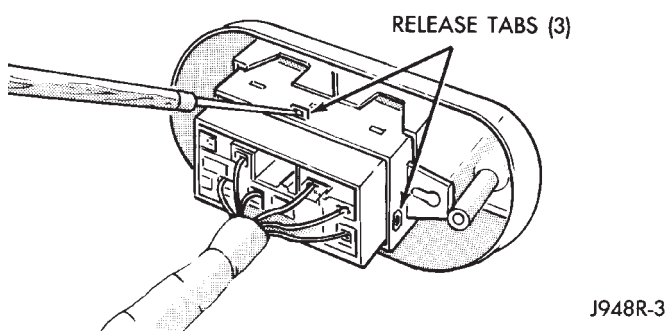

Fig. 3 Power Seat Switch Connector Remove
(3) Pull the switch and bezel unit out from the seat far enough to access the switch wire harness connector. Gently pry the locking tabs of the switch away from the wire harness connector and carefully unplug the connector from the power seat switch module (Fig. 3).